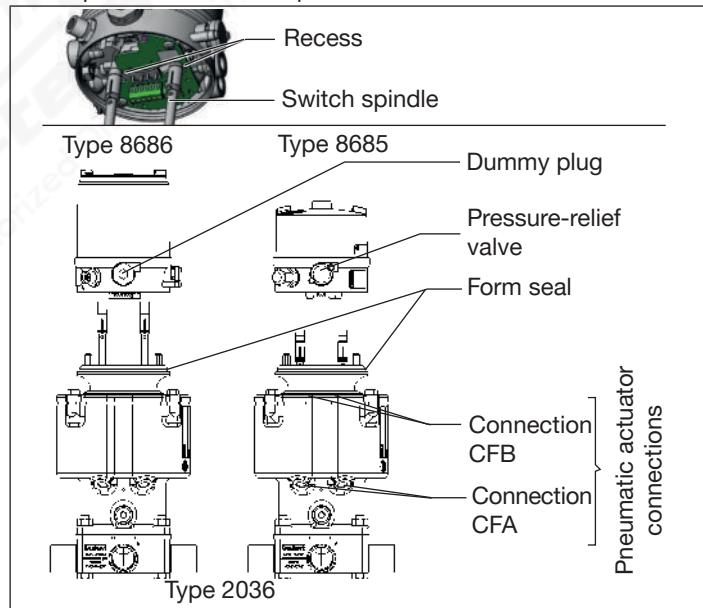

Fig. 10: Assembly of feedback head / control head
These operating instructions describe the installation of feedback head Type 8685 and control head Type 8686 to a valve Type 2036 with an actuator. The information also applies to Type 2036 valves with two actuators or Type 2034 valve clusters when using Robolux components. The information here also applies if the actuator, adapter kit and feedback/control head are in the position shown in "Fig. 10"
- ▶ For actuators with control function B (CFB, NO), the lower end position must be approached before the feedback head / control head is placed on the adaptation body. To do this, pressurize the appropriate pilot air port of the actuator ("Fig. 10").
- ▶ Make certain the feedback head / control head is correctly positioned relative to the actuator: The dummy plug or pressure-relief valve must be located on the side of the pneumatic connections of the actuator (see "Fig. 10").